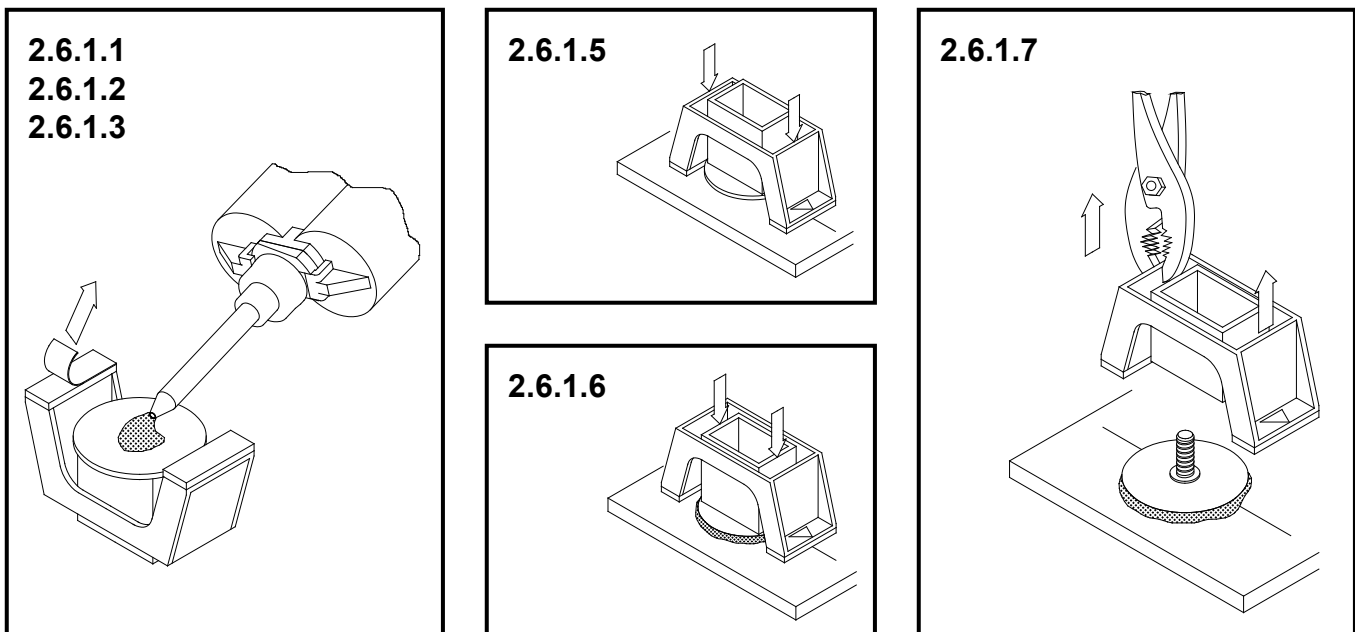

FIGURE 5. PROCEDURE FOR ATTACHMENT OF CLICK BOND FASTENER
- 2.6.1.3 Apply the mixed adhesive as a built-up spot to the center of the stud, standoff, or cable tie mount baseplate bonding area as indicated in Figure 5. The quantity of adhesive applied should be just sufficient to provide the squeeze out of a small amount of excess adhesive completely around the circumference of the baseplate. See Table III for approximate adhesive spot diameters for each baseplate size.
- 2.6.1.4 Figure 5 indicates the sequential steps required to attach the Click Bond Pressure Application Fixture (PAF) to the substrate and to activate the fixture to put bonding pressure on the fastener baseplate.